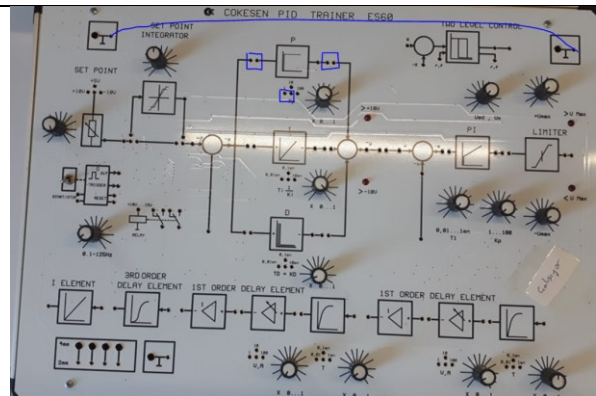

Figure 9: jumper-cable connection for ground points
- 4) Using a jumper-wire, connect the 2 ground points together as depicted in Figure 9:.